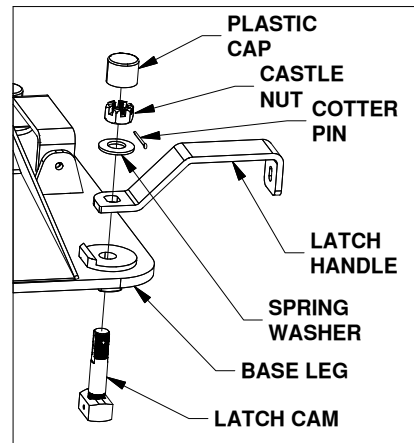

FIGURE C3: List of latch parts.
3. **Adjust the tension in the latch handle**, for parts list and visual guide refer to figures C3 and C4.